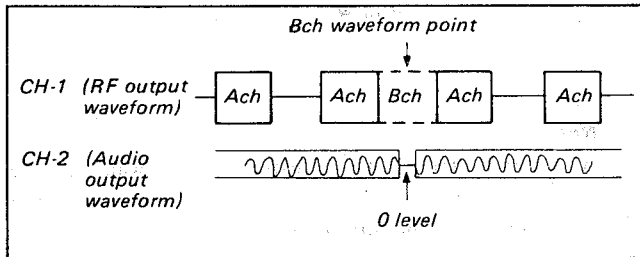
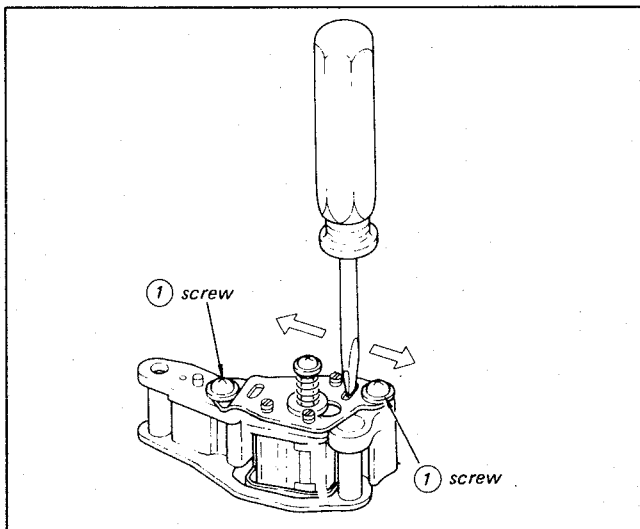

Fig. 4-12.
Fig. 4-13.
- 3) Turn the tracking control knob back and forth, and confirm that the output waveform level is maximum at the center click position, and that the 0 level of the audio signal is at the point where the RF output waveform Bch waveform appears, as shown in Fig. 4-12.
Set the tracking control knob at the center detent position and loosen the two ACE assembly position adjustment screws ①. As shown in Fig. 4-13 slide the ACE assembly with a screwdriver until it is in the position shown in Fig. 4-12 and the RF output waveform is maximum. Tighten the screws ① when this position is obtained.